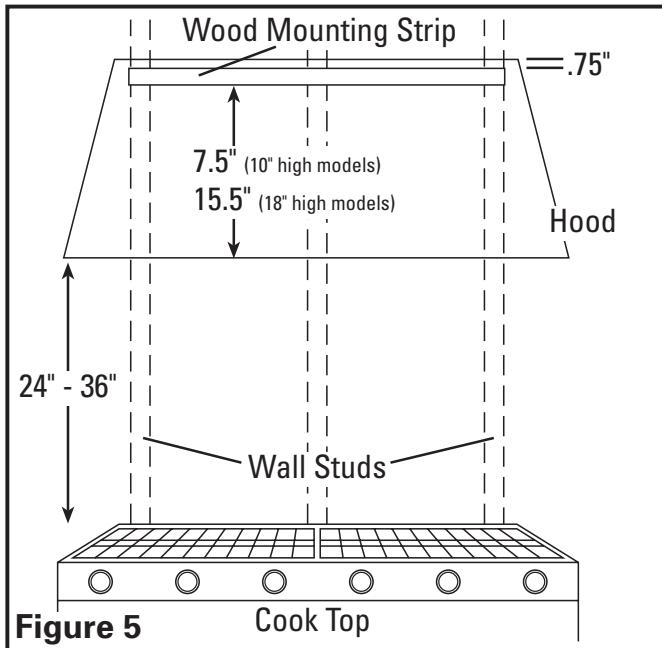

Figure 5
1. Measure and mark a level line on the wall above the cook top for the included wood mounting strip. The height of the mounting strip will depend on your specific installation and should be .75" below the top of the hood canopy height (Figure 5).